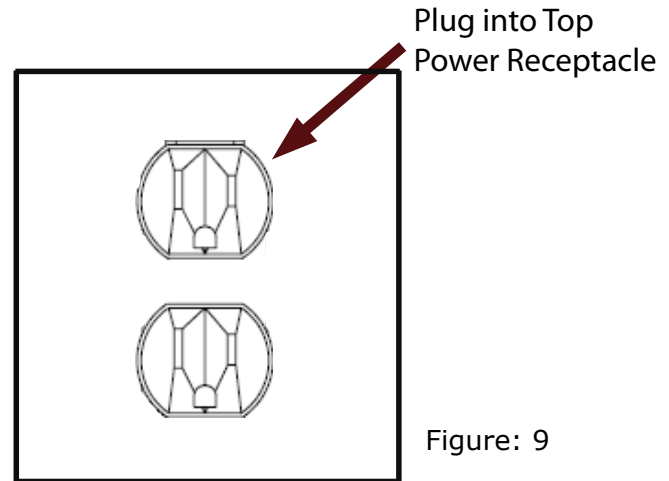

Figure: 9
Step 5: Insert 3-Prong Plug into Top Power Receptacle of Junction Box (Figure: 9).